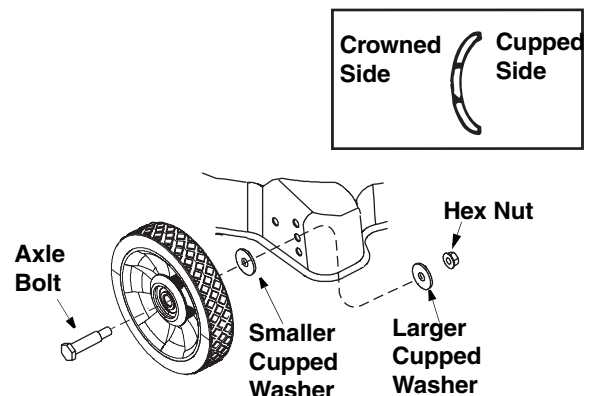

Figure 8
2. Place axle bolt through the wheel with the hub side of the wheel facing the deck. See Figure 8.
3. Place the small cupped washer on the axle bolt with the cupped side towards the deck. See Figure 8.